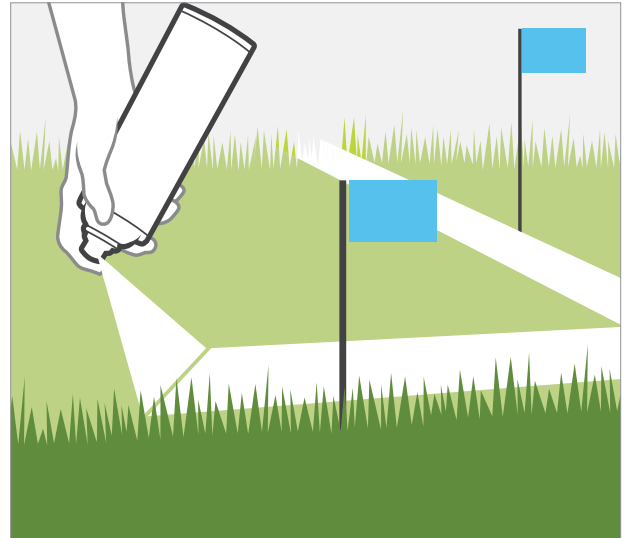

Figure 1
1. Using marking spray paint and small flags, indicate the pipe lines from the P.O.C. to the valve manifold locations. Mark the layout of the irrigation system *Figure 1*.